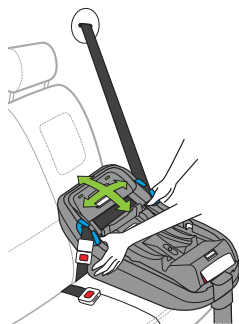

Figure 63
- While gripping the Base near the blue Vehicle Belt Guides, pull front to back and left to right to check for secure installation, as shown in **Figure 63**. Vehicle belt **MUST** stay tightly secured around Base and Base should not move more than 2.5 cm (1 in.) in any direction.